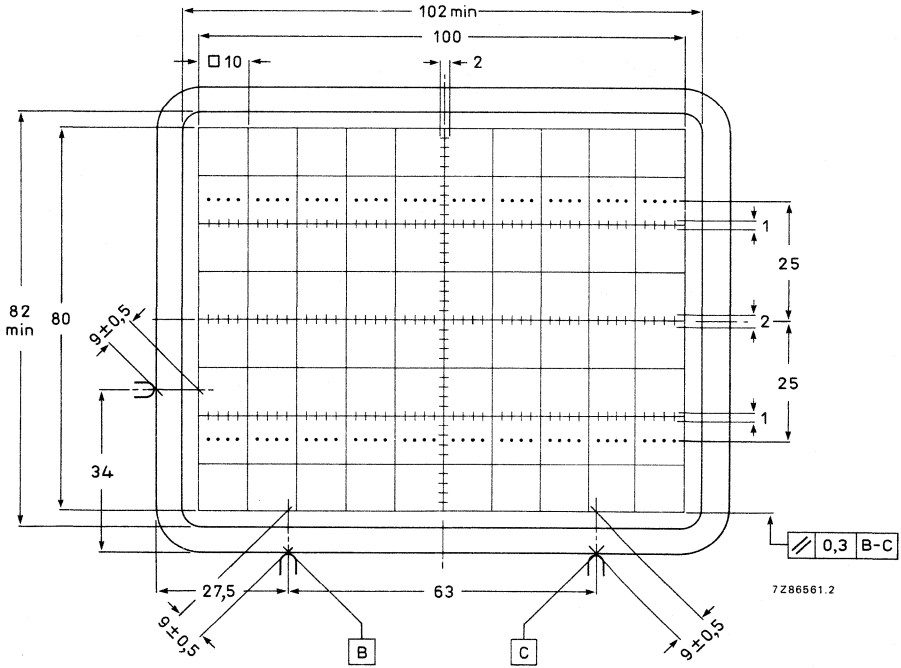

Fig. 4 Front view of tube with internal graticule, type 93.
- (1) Dimensions of faceplate only. The complete assembly of faceplate and cone (frit seal included) will pass through an opening of 122 mm x 102 mm.
- (2) The coil is fixed to the envelope with resin and adhesive tape.
- (3) The length of the connecting leads of the rotation coil is min. 350 mm.
- (4) Reference points on faceplate for graticule alignment (see Fig. 4).
The internal graticule is aligned with the faceplate by using the faceplate reference points, see Fig. 4. See also note 1.